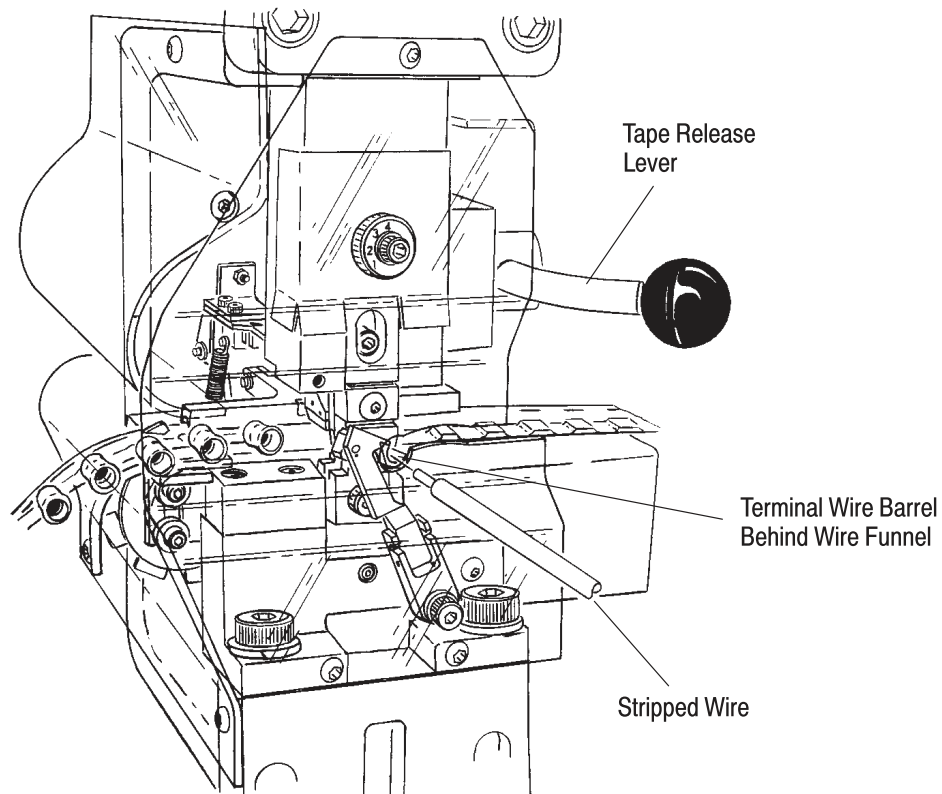

Figure 13
4. Insert the pre-stripped wire into the product wire barrel until the wire end contacts the internal wire stop. See Figure 13. Depress and release the foot switch to cycle the machine.